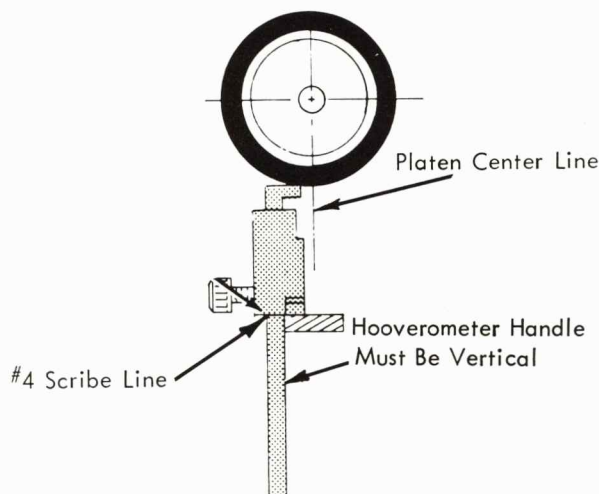

FIGURE 89. Platen Height
- a. Platen Height - With the head of the Hoovermeter set at the #4 scribe line, the platen should just touch the base of the handle when the head is resting on the escapement rack (Fig. 89).